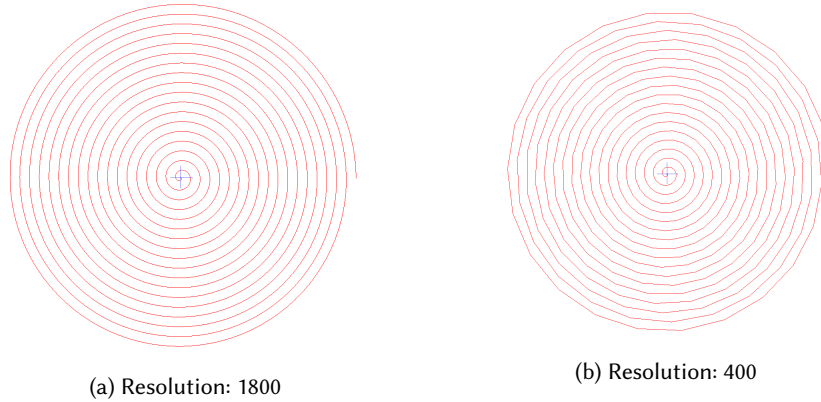

Fig. 3. Plots of the spiral curve defined in "**1c.wrl**" with differing resolutions
As seen in Fig. 3 above, a much higher sampling resolution of **1800** is required for drawing the spiral curve in order for it to appear smooth. This is due to the fact that the spiral has a large number of spirals (18), and therefore the sampling locations on the outer part of the spiral are further apart as compared to the inner part of the spiral.